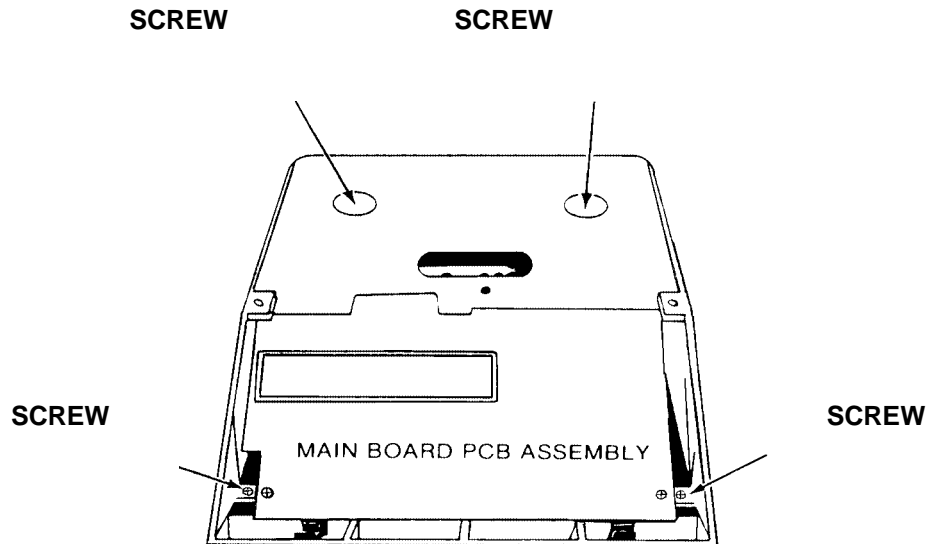

FIGURE 5
The platter support plate, Front Bezel and the scale cover must be removed. The scale cover is held in place by four (4) screws. See figure 5 for screw locations. Lift the cover in a forward direction. To remove the Main PCB, disconnect all harness connections and the four (4) screws (one in each corner).